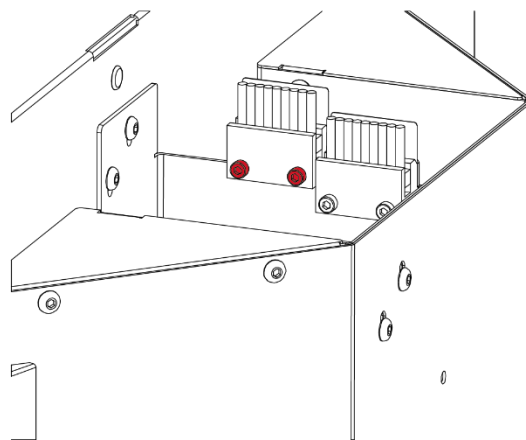

Fig. 106 Screws securing the T0 hotend cleaning unit
3. Unscrew the two screws securing the T0 hotend cleaning unit on the left side of the cleaning station (Fig. 106). Put the unscrewed screws aside.